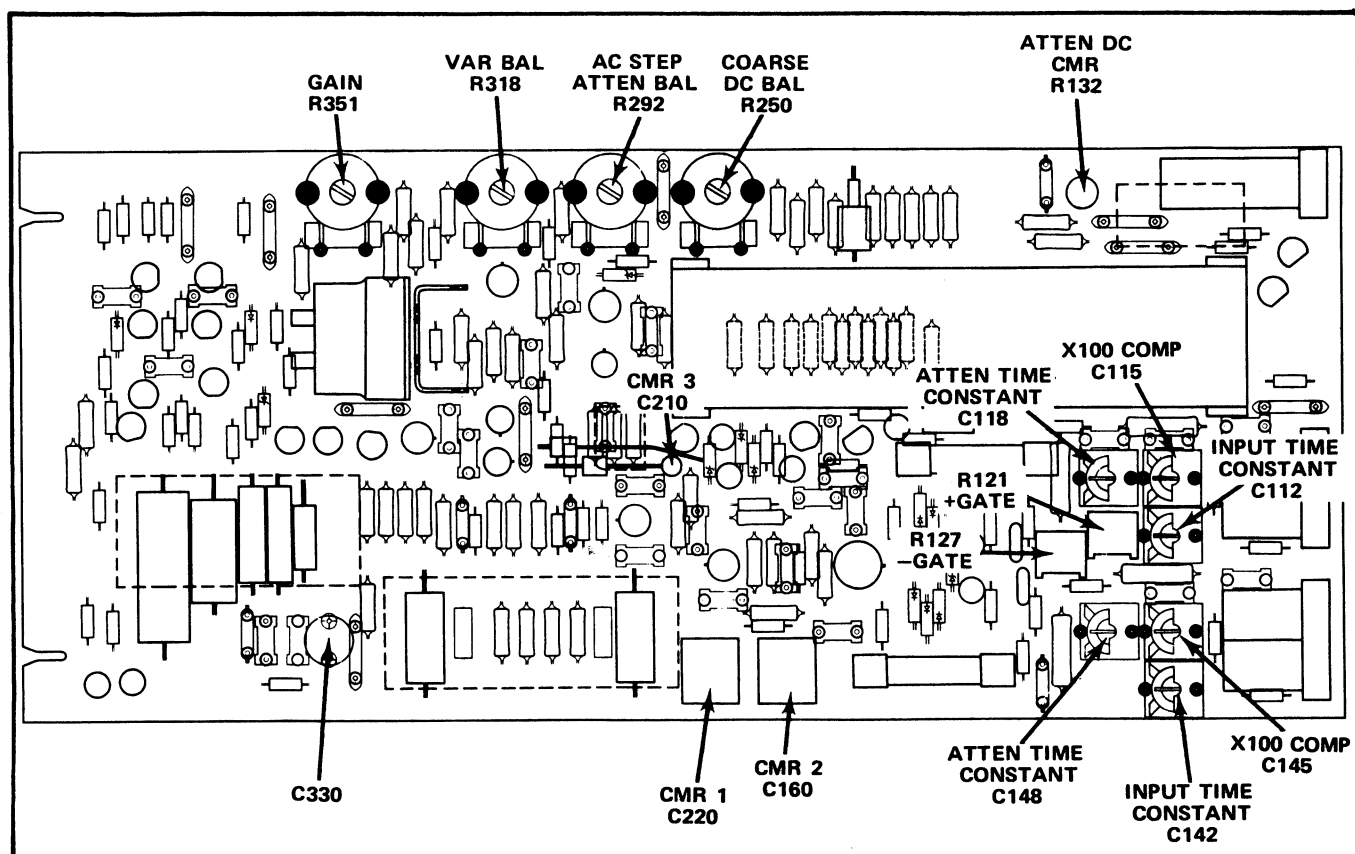

Fig. 3-1. Internal adjustment locations.
2. Connect the oscilloscope to the power source for which it is wired. Set the controls as described under Initial Control Settings. Refer to Fig. 3-1 for location of internal adjustments and test points.